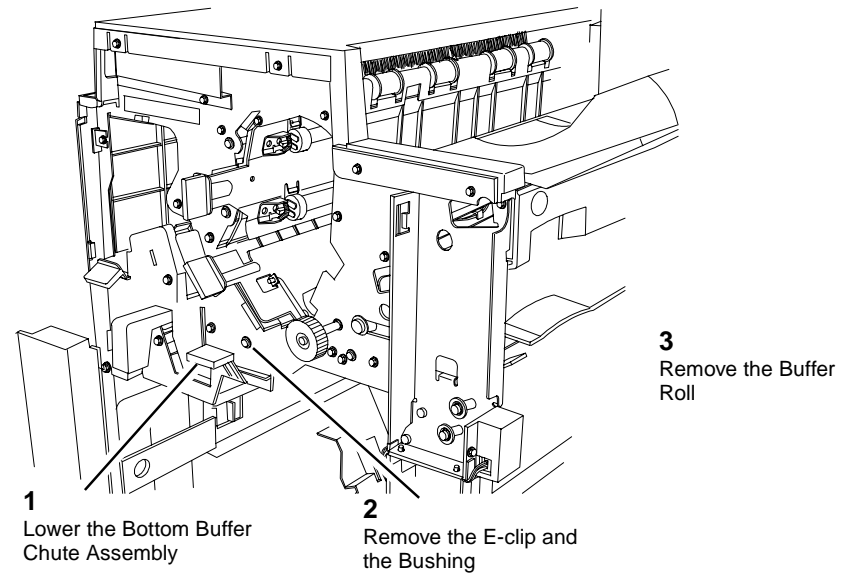

Figure 4 Removing the Buffer Roll
7. Remove the Buffer Roll (Figure 4).